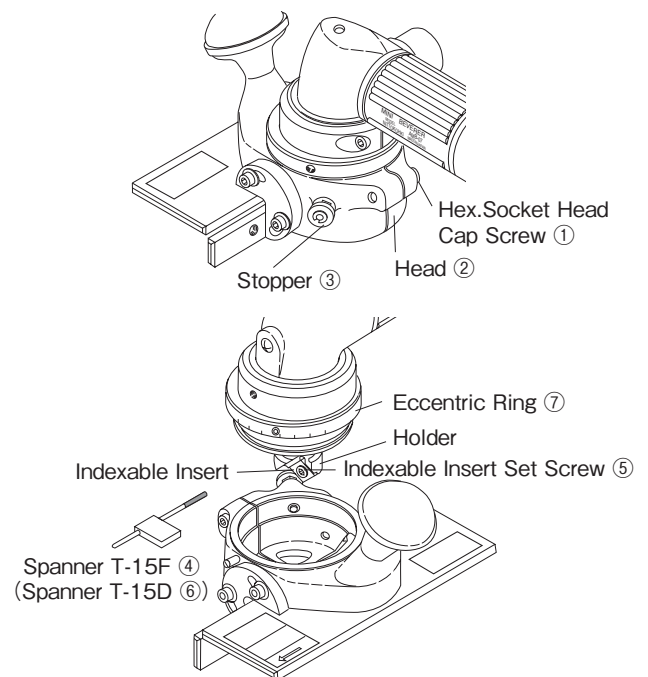

Fig. 19
- (1) Loosen the Hex. Socket Head Cap Screw ① of the Head ② (Fig. 19).
- (2) While pulling the Stopper ③ remove the Head ②.
- (3) Unscrew the Indexable Insert Set Screw ⑤ with the Spanner T-15F ④ (or Spanner T-15D ⑥) and remove the Indexable Insert.
- (4) Install a new Indexable Insert (or changing the side of Indexable Insert) paying attention to its shape.
- (5) While keep pulling the Stopper ③, install the Head ② on the body.
- (6) Firmly install the Head ② on the end of Eccentric Ring ⑦ without making any clearance and tighten the Hex. Socket Head Cap Screw ①.
- Spanner T-15D ⑥ (TQ01683) is available as optional accessory so that the Indexable Insert Set Screw ⑤ can be removed efficiently.